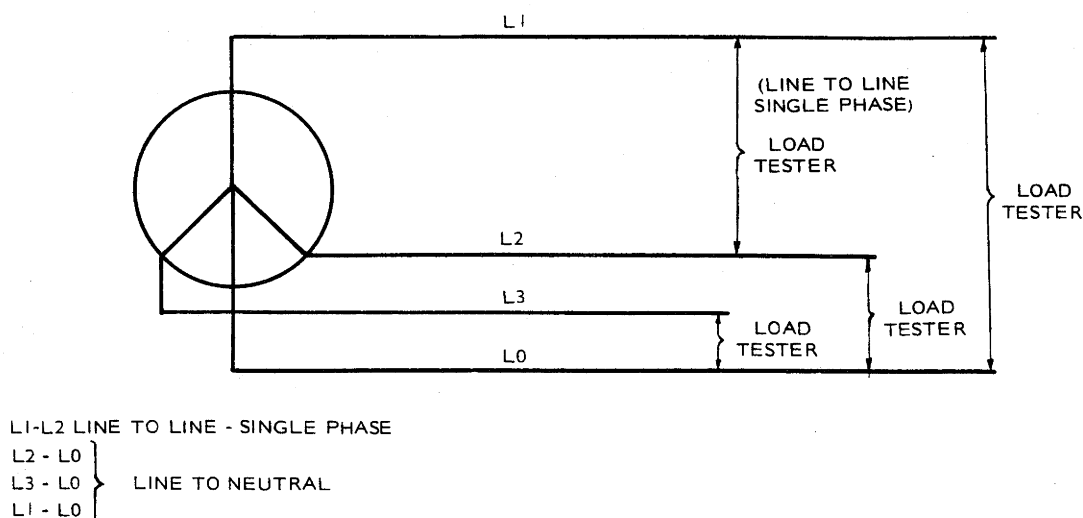

FIGURE 2. 3 PHASE CONNECTION
3. Connect the Load-Test Panel leads between the generator and panel input posts, being careful to observe polarity. On battery charging sets connect the Load-Test Panel to the battery terminal posts, then disconnect battery after unit is started. For 3-phase units, see Figure 2.
Where governor-controlled engine speed regulates voltage level, accuracy of regulation can be determined, using the Load-Test Panel. With the panel connected to the set as in Figure 2 or 3, all panel switches OFF, proceed as follows: